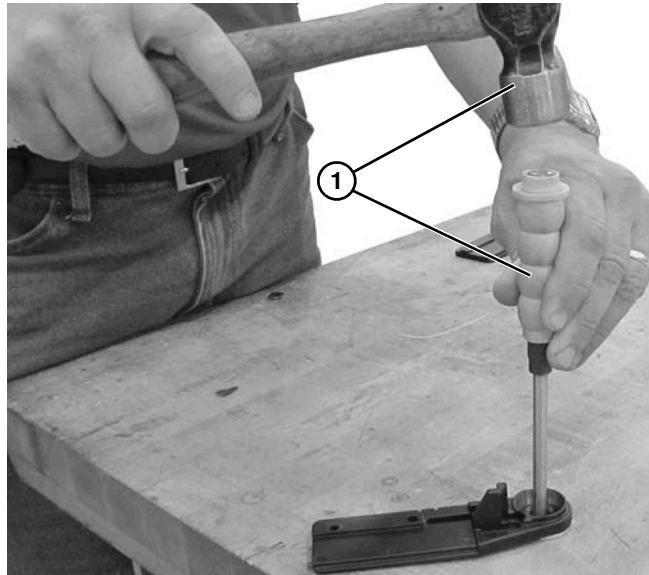

Figure 70
3. Use a hammer and punch (6 mm - 13 mm diameter) (**Figure 70, item 1**) or long bolt to knock out slug (**Figure 74, item 1**) for shaft backing up tail plate with washer.